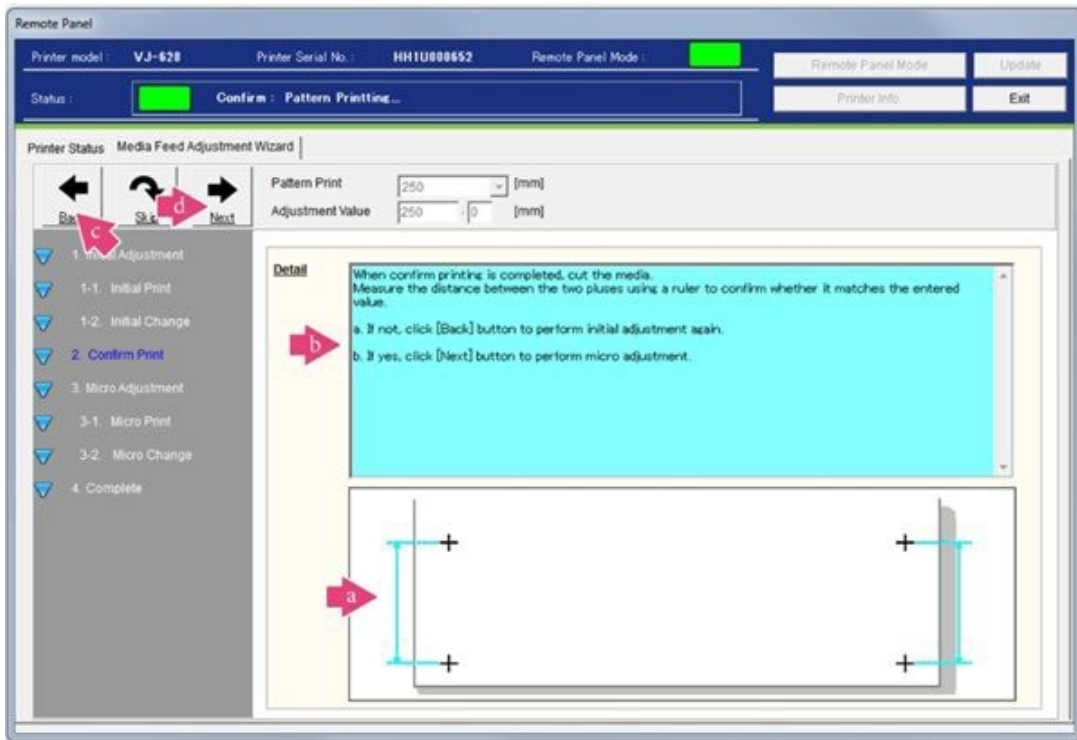

Figure 98
85. When the printing is completed, cut the media. Measure the distance between the two plus signs as shown (a); then follow the Detail screen instructions according to the results (b). Select **Back** (c) or **Next** (d) to continue. See Figure 98.